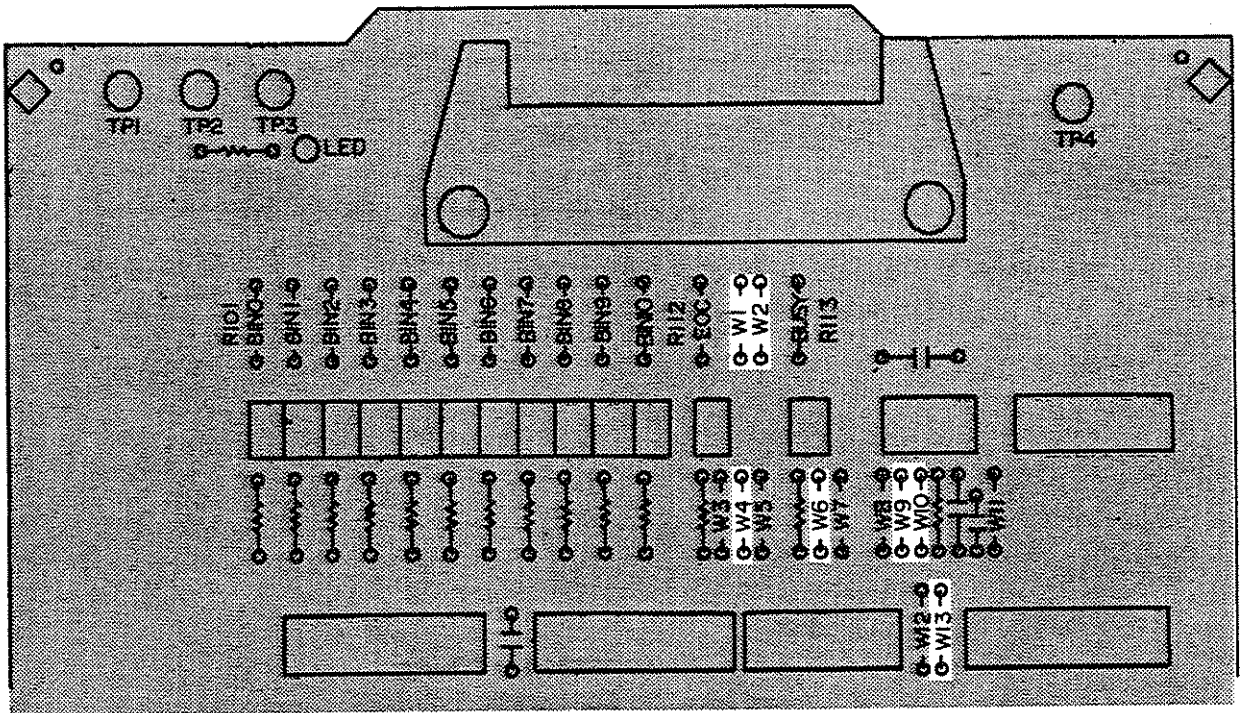

Figure 3-11. RTR2 Jumper and Pull-Up Resistor Locations
2. Configure the following interface signals by installing the jumpers as shown in Figure 3-11.
3. Bring +5 V out through pins 12 and 17 of the handler interface rear panel connector ( install a jumper at W1 for +5 V and at W2 for the COMMON connection ). Refer to Figure 3-11 for the locations of W1 and W2.